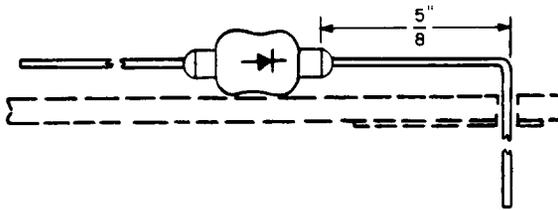
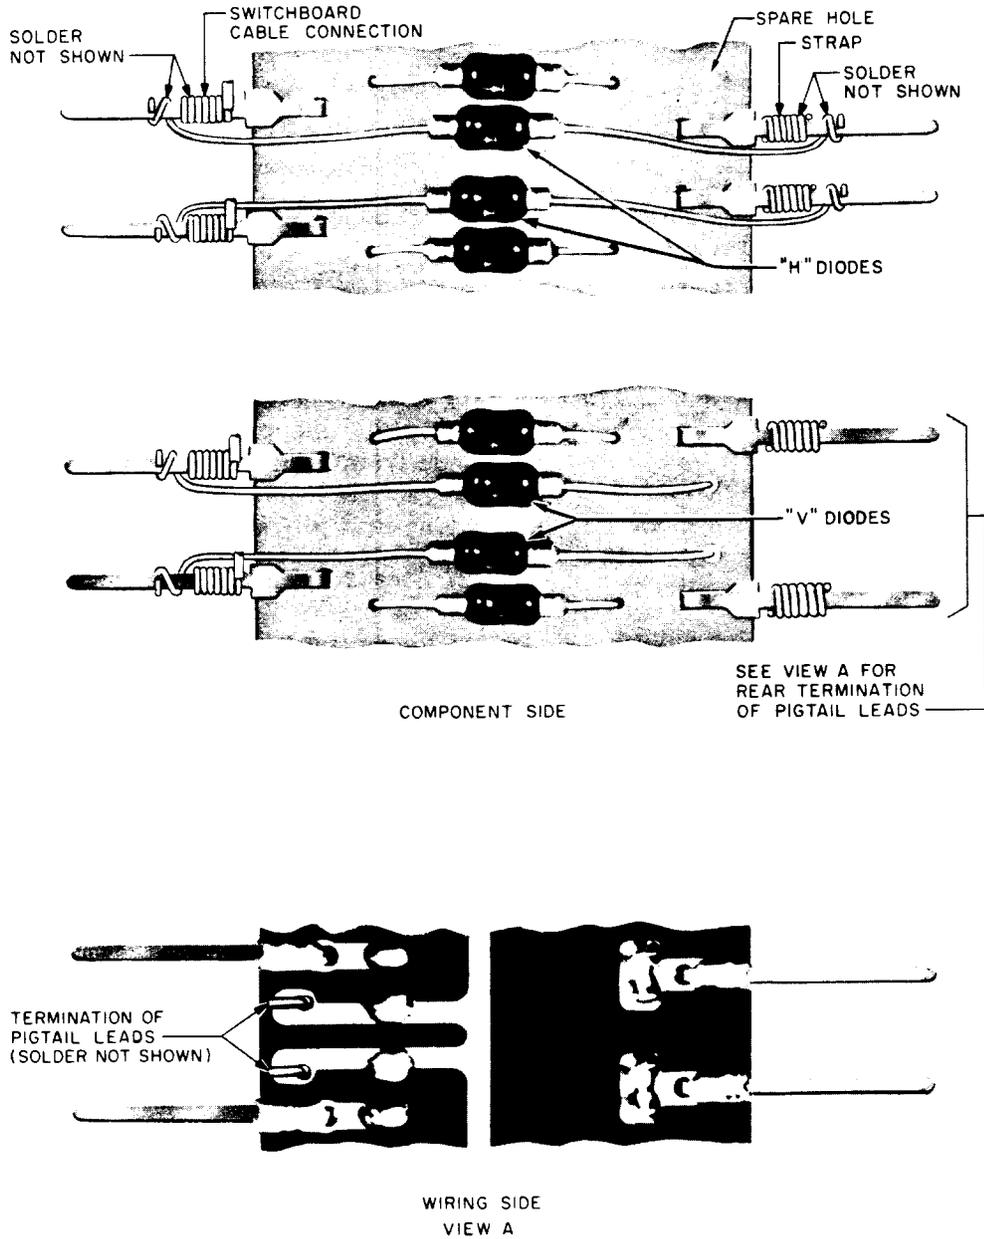

Fig. 2 – Forming Pigtail Lead
Fig. 3 - Method of Mounting Replacement Diodes
(2) **Step 2:** Form the pigtail lead of the replacing diode as shown in Fig. 2 so that the pigtail lead to be soldered to the conductor path will slip through the spare hole provided for this purpose (see Fig. 3).
(3) **Step 3:** With the P-long-nose pliers, insert the bent pigtail lead through the spare hole (see Fig. 3) and bend the lead, with the R-1102 spudger, toward the edge of the board. Cut the excess length of pigtail lead at the edge of the board.
(5) **Step 5:** With the P-long-nose pliers, wrap the replacing diode pigtail lead with a minimum of one and one-quarter turns around the top or bottom of the front terminal (see Fig. 3) as close to the switchboard cable connection as possible.
- (1) **Step 1:** From the front of the frame, cut the pigtail lead of the defective diode on the component side of the board as close to the board as possible using the V-notch pliers.
- (2) **Step 2:** With the R-1102 spudger, carefully draw the defective diode away from the board.
- (3) **Step 3:** Using the P-long-nose pliers, connect the replacing diode to the front terminal by wrapping the pigtail lead with a minimum of one and one-quarter turns around the top or bottom edge of the terminal (see Fig. 3) as close to the switchboard cable connection as possible. The diode should be positioned approximately in line with the other diodes on the board.
- (4) **Step 4:** Solder both the pigtail and switchboard connection in accordance with Part 5.
- (5) **Step 5:** From the rear of the frame, cut the pigtail lead of the defective diode on the component side of the board as close to the board as possible. Use the P-long-nose pliers to prevent the diode from dropping.
(6) **Step 6:** Using the P-long-nose pliers, connect the replacing diode to the rear terminal by wrapping the pigtail lead with a minimum of one and one-quarter turns around the top or bottom edge of the terminal (see Fig. 3) as close to the strap as possible. The lead should not be so taut as to distort the terminal.
4.01 V1 Through V19 Diodes: For the subsequent replacement of a defective V diode, mounted as shown in Fig. 3, proceed as follows.
4.02 VO and HO Through H19 Diodes: For the subsequent replacement of a defective VO or H diode, mounted as shown in Fig. 3, proceed as follows.